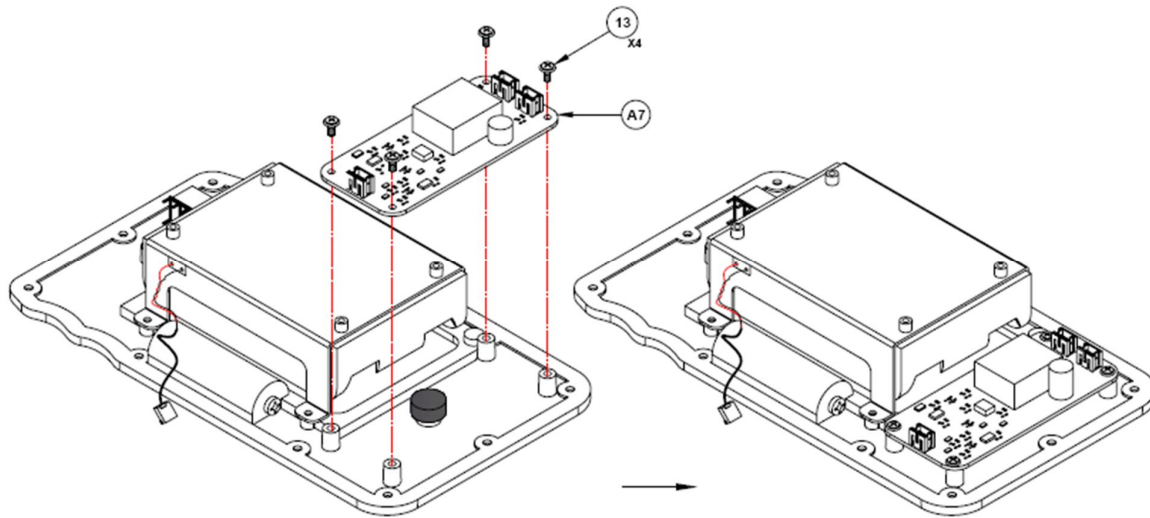

Figure 16 : Reassembly of Ringer PCA
- a) Mount the Ringer PCA on the inner side of the bottom assembly unit with the connector pointed upward direction as shown in Figure 16.